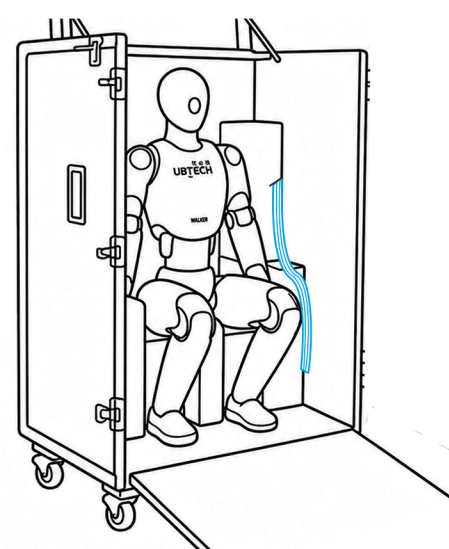

Figure 4
3. Before remote control operation, verify that there are no obstacles within 1 meter around the loading ramp.(Figure 4)